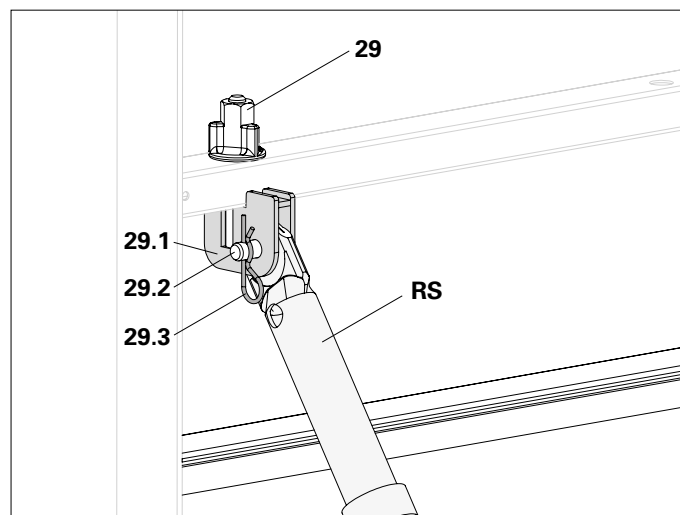

Fig. A7.03
Connect Push-Pull Prop (RS) and connection lugs (29.1) with bolts (29.2) and cotter pins (29.3). (Fig. A7.03)